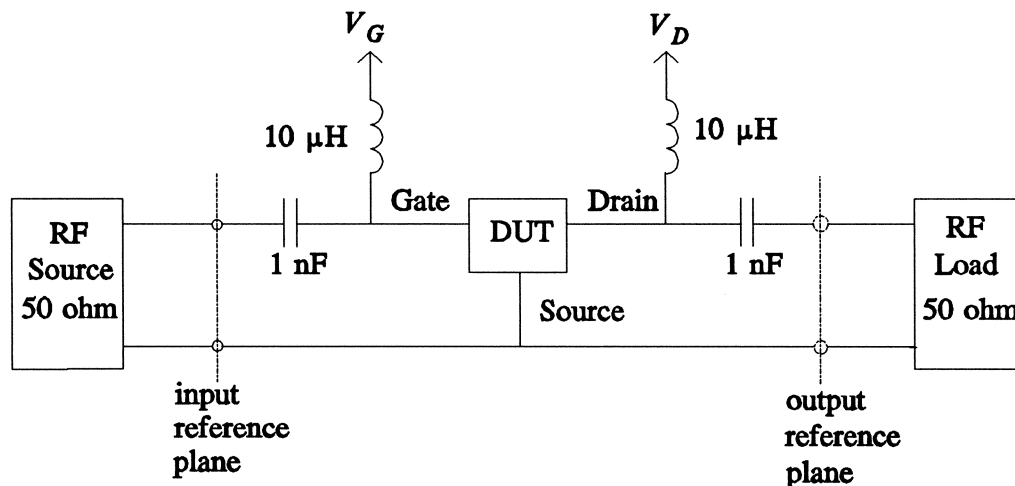
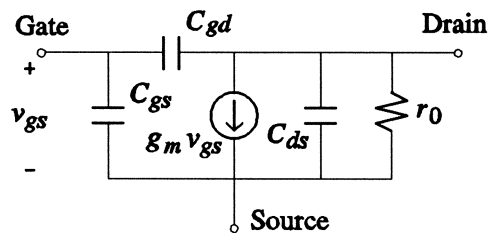
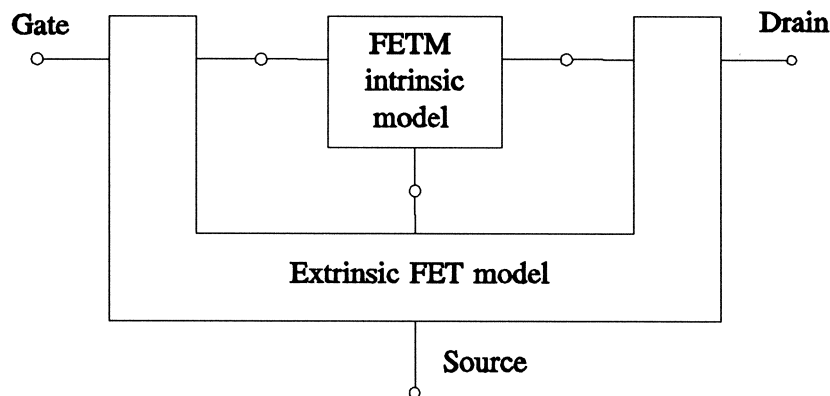

Fig. L4a MESFET measurement setup.
Fig. L4b A simple, small-signal FET model.
Fig. L4c Schematic diagram of a large-signal FET model.
A microwave Schottky barrier FET (MESFET) has been measured in the setup shown in Fig. L4a.
Throughout this lab you will investigate two models for the FET. The first one is a simple small-signal model which may be suitable for simulating the FET around a specific operating point, determined and established separately. This model is shown in Fig. L4b. It consists of a voltage-controlled current source and four lumped, linear components. If the biasing of the FET is dropped out of the picture the resulting circuit is linear. The second model, shown in Fig. L4c, is a global, large-signal, nonlinear model which accounts for all nonlinearities, including biasing. In this lab you will use the Materka and Kacprzak built-in intrinsic nonlinear model (FETM) together with a built-in super-component "Extrinsic2", which consists of a number of linear elements connected internally in a predefined manner (Manual Chapters 7 and 8 - "Nonlinear Elements" and "Linear Elements").
- (1) Create the OSA90 Input File. It is recommended that you use default microwave units. Define the Model block. Describe the circuit of Fig. L4a with the model of Fig. L4b put in place of the device under test (DUT). Use "CAP" and "VCCS". You do not need to include the bias sources in this experiment, and you may exclude the blocking capacitors and inductors (if so, the overall circuit will simply reduce to that of Fig. L4b). Define the ports using "PORT" statements. Assume the following values for the model parameters.
- All these parameters are to be optimizable. Be careful when you define the "VCCS". The orientation of the source in Fig. L4b is opposite to that in the Manual. Include  $r_o$  in the definition of "VCCS". After completing the circuit description with the "CIRCUIT" statement, define the array "SP\_SIM[8]" of simulated  $S$  parameters in the following order:  $\text{Re}(S_{11})$ ,  $\text{Im}(S_{11})$ ,  $\text{Re}(S_{21})$ ,  $\text{Im}(S_{21})$ ,  $\text{Re}(S_{12})$ ,  $\text{Im}(S_{12})$ ,  $\text{Re}(S_{22})$ ,  $\text{Im}(S_{22})$ , which is the order of the data in each row in the file "cascade.dat".
- (2) Define the array "SP\_DATA[8]" and initialize it with the  $S$  parameters for  $V_G = -1.74 \text{ V}$  at 2 GHz (copy the corresponding row, without the first number, from the data). Define the error functions in the array "SP\_ERROR[8]" as the difference between the arrays "SP\_SIM" and "SP\_DATA". Close the Model block with the "End" statement.
- (3) Define the Sweep block with one sweep set of the "AC" type to simulate the circuit at a single frequency of 2 GHz (only numerical output will be available). The responses of interest are "SP\_SIM" and "SP\_ERROR". Define the Specification block with one specification set of the "AC" type. Define a single specification of 0 for the whole array "SP\_ERROR" at 2 GHz. Save your file.
- (4) Perform simulation and then invoke the  $\ell_1$  optimizer. After optimization is completed, perform circuit simulation again, go to the file editor and save the back-annotated file under
- (1) Retrieve either of the files used in Experiment 2, Step 2. Go to the secondary window of the editor by using the "Toggle file" command. Read in the file "lab4model.inc" (see Appendix B). Mark the whole contents of the file and copy it to the primary file. This is the model shown in Fig. L4c to be put in place of DUT in Fig. L4a and should replace the description of the small-signal model used in the preceding experiments. You may have to adjust the node numbers. You also need to include the blocking capacitors and inductors of Fig. L4a, and, using "VSOURCE", to define DC bias sources. When defining  $V_G$ , introduce a new array "VGS[3]" and a new bias index "K", which will be swept, and select the value of  $V_G$  using "VDC=VGS[K]". Adjust the number of rows of the matrix "SP\_DATA" to accommodate all 51